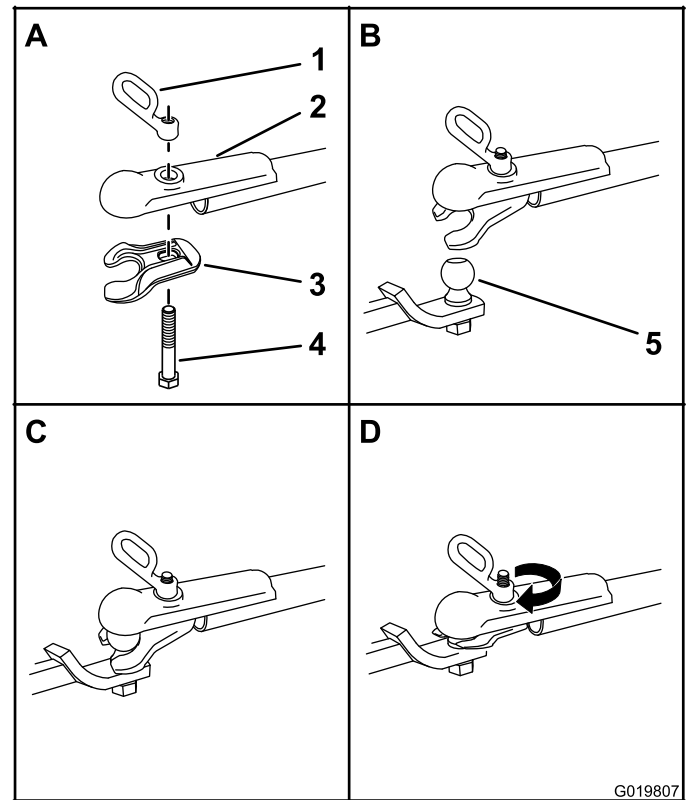

Figure 18
1. Apply removable thread-locking compound to the threads of the coupler bolt to prevent the coupler handle from coming loose (Figure 18).
3. Push the coupler bolt up through the coupler clamp and the coupler top, and connect the coupler handle to the bolt (Figure 18).
5. Turn the coupler handle clockwise to thread it onto the bolt until it is secure (Figure 18).